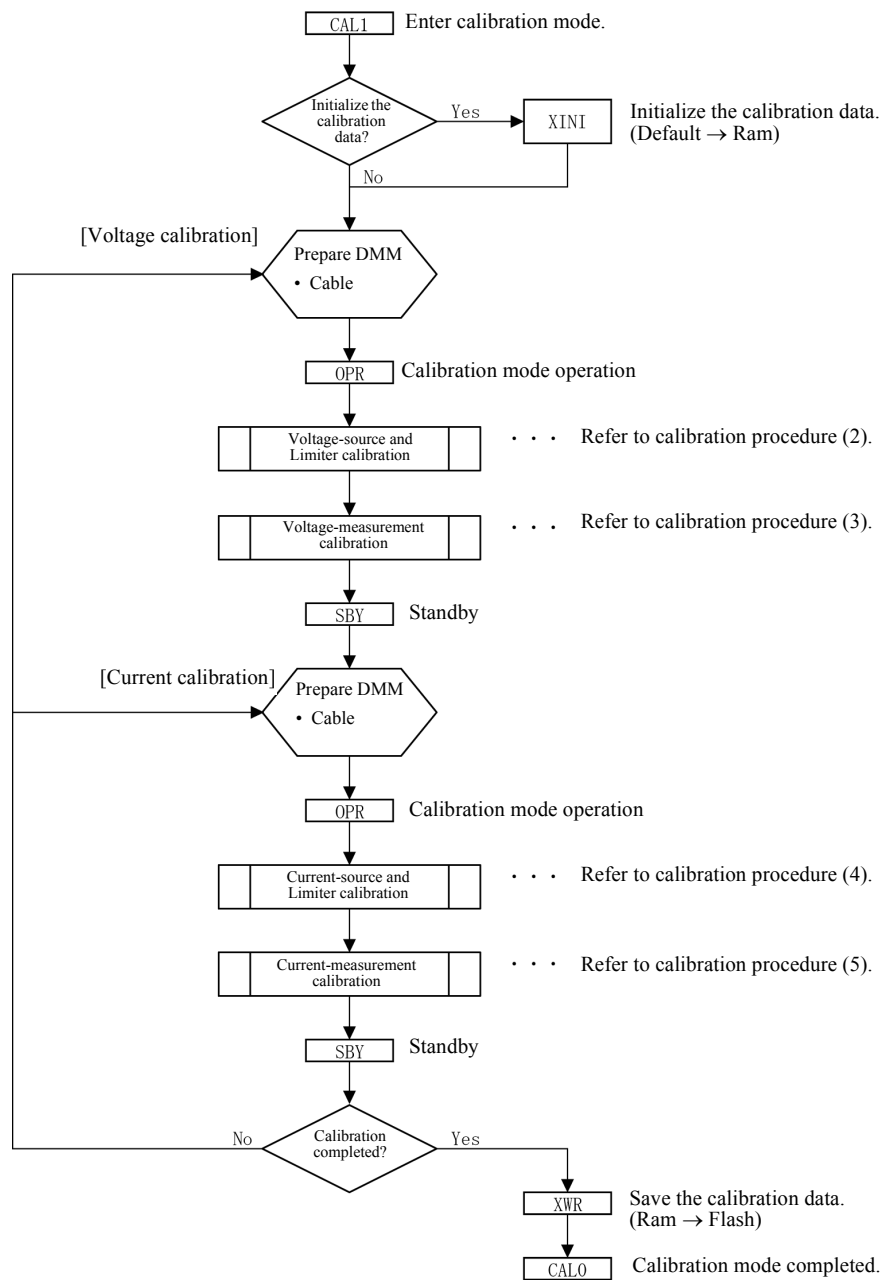

Figure 8-2 6241A Calibration Procedure (1)
Figures 8-2 to 8-6 show the calibration procedure. For more information on remote commands, refer to Section 6.7.3, "Remote Command List."
For details about the calibration procedure, see Figure 8-2, “6241A Calibration Procedure (1).”